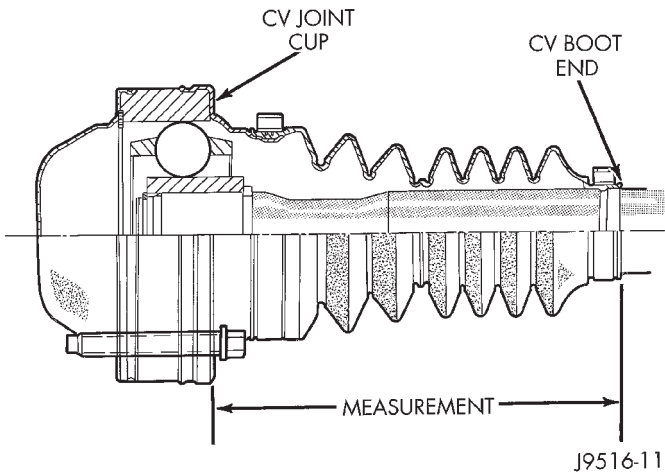

Fig. 19 Measurement
(1) Place vehicle on floor or drive-on hoist with full weight of vehicle on suspension.
(2) Measure the distance from the face of the CV joint cup to the end of the CV joint boot (Fig. 19).